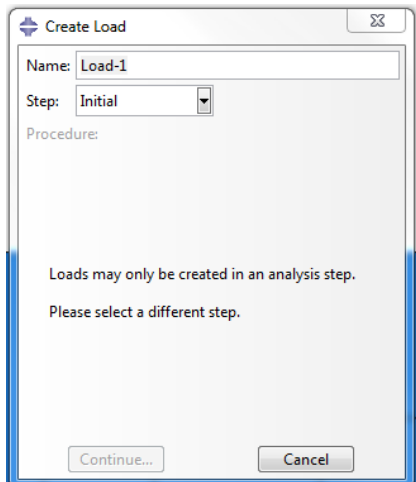
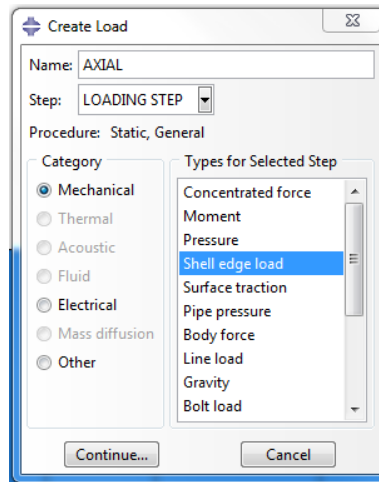

Figure 29a. Create Load
Figure 29b. Create Load (AXIAL)
- An axial load of 500 lbs will be applied on the right side of the structure. Double click **Loads** in the model tree and the create load dialog box will appear (Figure 29a). Create a Name for the load called **AXIAL**. Ensure that the **Step** option is set to **LOADING STEP** and that the **Category** is set to **Mechanical**. For the **Types for Selected step** option choose **Shell edge load**. The **Create Load** dialog box should look similar to Figure 29b.